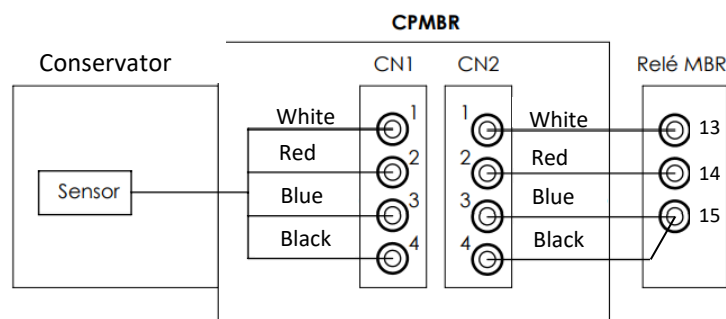

Figure 24 – Connection diagram
5. Strip approximately 4 mm of each of the 4 conductors of the cable. Then, make the electrical connections following the diagram shown in Figure 24. The MBR Relay action terminals are spring-loaded, meaning that you simply insert the conductive part into their terminals. Therefore, using needle-type terminals is optional;